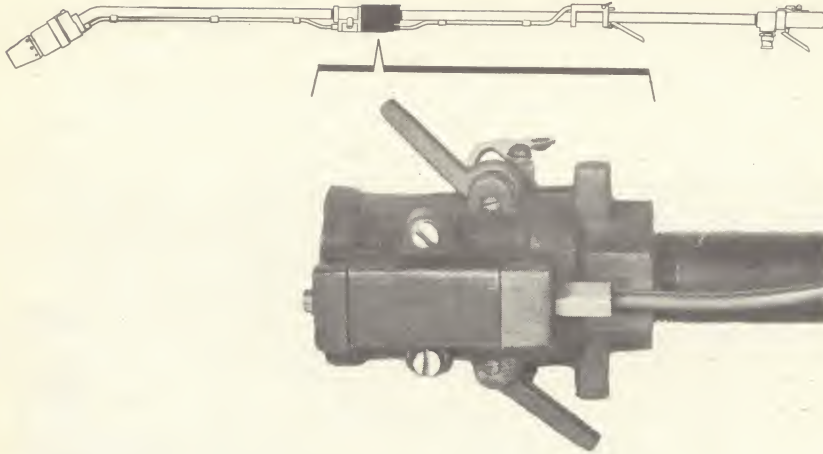

Fig. 37. Female gun connector.
(3) Female gun connector. (a) Using wrench, unscrew bushing from female gun connector (figs. 37 and 38).